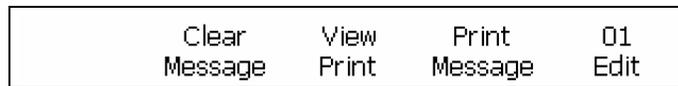

Figure 6-43: Frame <01 Edit>
- 1 Begin in the Frame <01 Edit>. Refer to Figure 6-43.